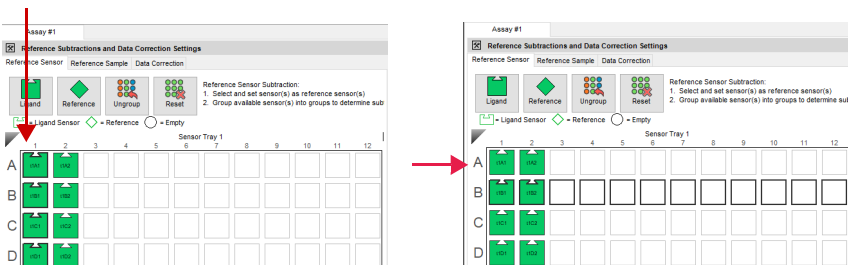

Figure 4-11: Selecting a Single Row or Column
- To view a single row or column of biosensor data, click the number above the column or the letter next to the row (Figure 4-11).